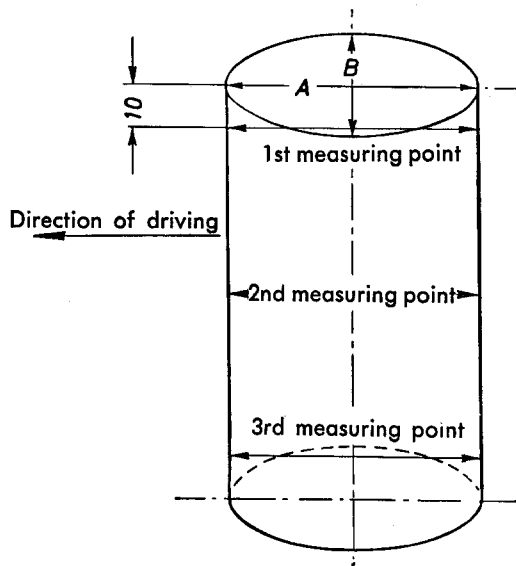

Figure 01-27/1
1. Measure the cleaned cylinder bores at top, in the middle and at the bottom, using an inside measuring instrument. The measurements must be taken in the direction of the piston pin axis (direction A) and then at right angles to this axis (direction B) (see Figure 01-27/1).